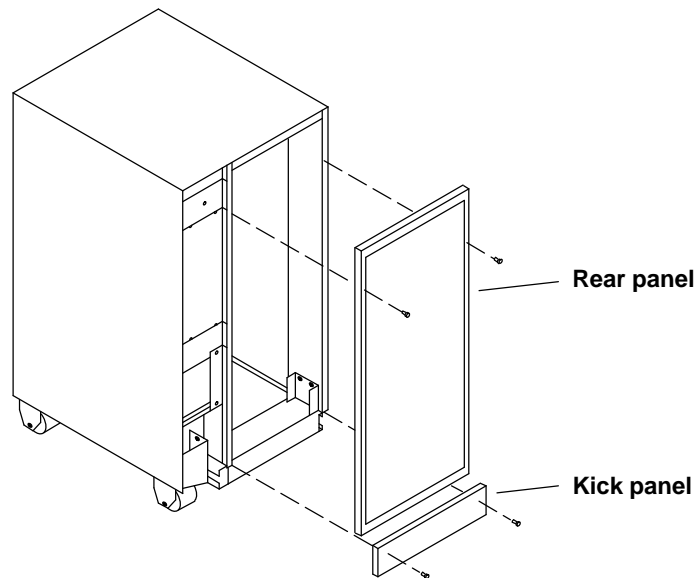

Figure 5-1. Removing the Panel to Access the Board in a 56-inch Data Cabinet
3. If the system is a 56-inch data cabinet, use a #2 Phillips screwdriver to remove the vented, rear panel. Refer to Figure 5-1. Then, go to step 4.